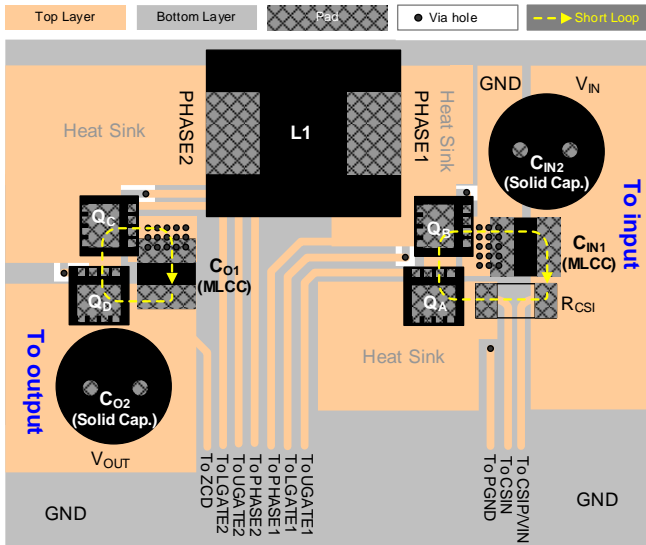

Figure 6. Recommended PCB Layout of the Power Stage
- ▶ Figure 6 is a recommended placement of the PWM Buck power-stage. A critical loop “from CIN1 → RCSI → QA → QB to CIN1” and “from CO1 → QD → QC to CO1” must be as short as possible to minimize the switching noise at CSIP/VIN, CSIN, PHASE1, PHASE2 and ZCD pins. The shorter paths also help to reduce radiated EMI. It is necessary to use an MLCC (10μF/50V, X5R/X7R) for the input capacitor (CIN1) and output capacitor (CO1). For reducing the input and output voltage ripples during heavy load operation, it is recommended to add more MLCCs or solid input and output capacitors. Moreover, to improve heat dissipation, one needs to increase the PCB areas for Drains of high-side and low-side MOSFETs.